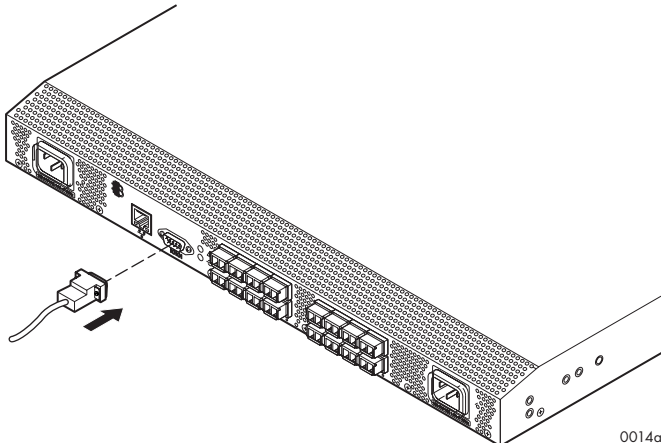

Figure 17 Connecting the serial cable to a SAN Switch 2/16V
2. Connect the serial cable to an RS-232 serial port on the workstation as shown in Figure 17.
NOTE: Figure 17 shows the SAN Switch 2/16V. This procedure is the same for all SAN Switches.